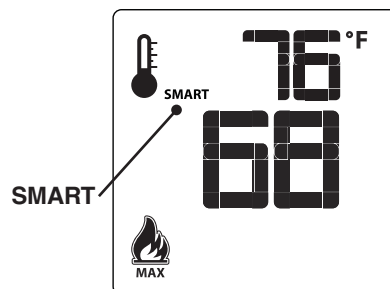

Fig. 45-5 Smart thermostat
- **Smart Thermostat Mode (Fig. 45-5):** In this mode, all other functions except the flame height adjustment are allowed. Manual flame height adjustment is not allowed in this mode. The smart thermostat function adjusts the flame height in accordance to the difference between the set point temperature and the actual room temperature. As the room temperature gets closer to the set point temperature, the smart function automatically modulates the flame down.